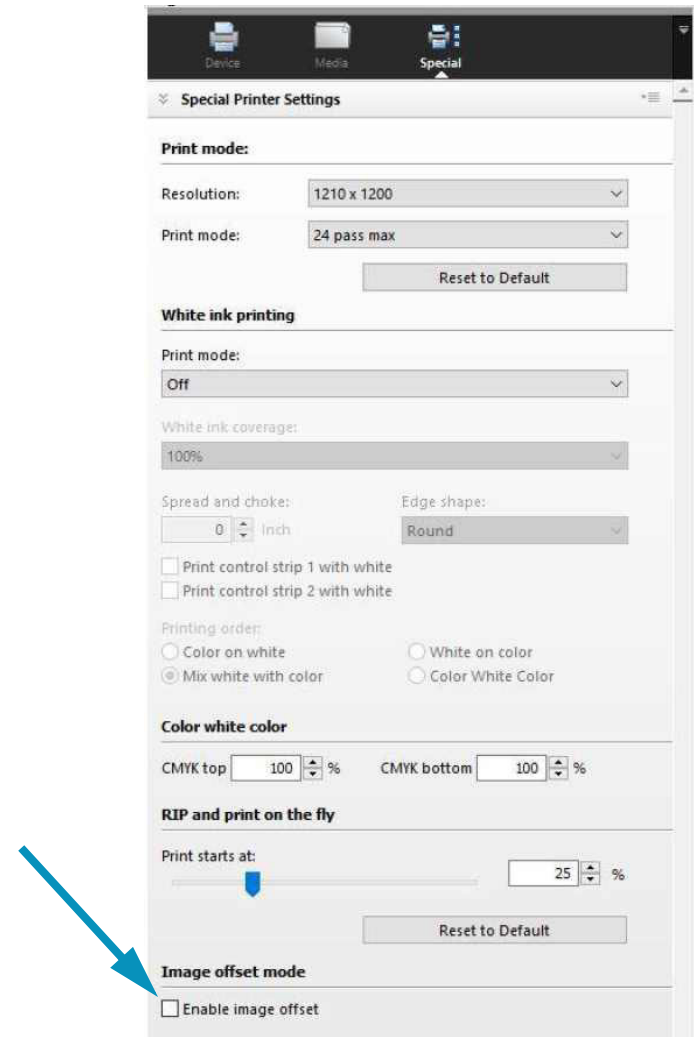

Figure 6-13: Select “Enable Image Offset”
4. Under **Image offset mode**, click the **Enable image offset** feature, as shown in Figure 6-13.